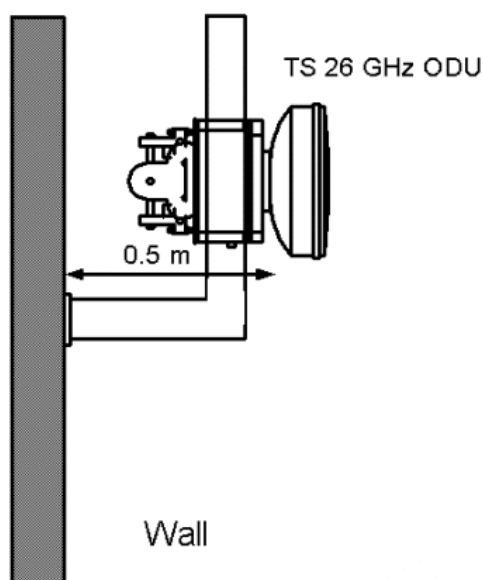

Figure 8-1: Mounting the RFU on a Wall
- If you need to mount the RFU on the wall of a building, you must ensure that the RFU-TS will be at least 0.5m away from the wall and no less than 15m above the ground as shown in Figure 8-1.